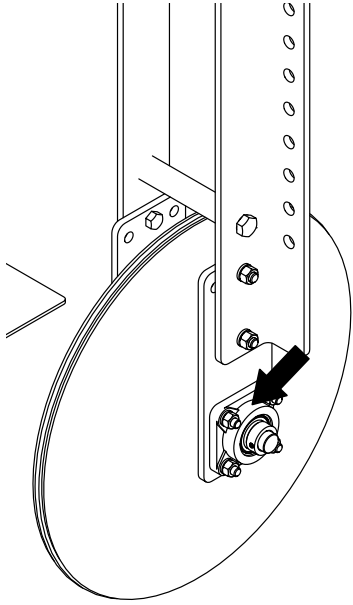

Figure 25 Guide Wheel Bearing Zerks
1. Lubricate bearing zerks on guide wheels with one shot of grease (Figure 25)